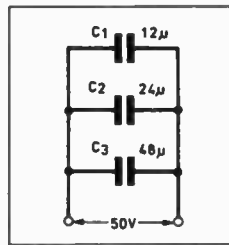

Fig. 5.5. Finding the charges.
6. Three capacitors of $12\mu\text{F}$, $24\mu\text{F}$ and $48\mu\text{F}$ are wired in parallel across a 50V supply. Calculate the equivalent capacitance and the charge on each capacitor. Fig. 5.5 illustrates.